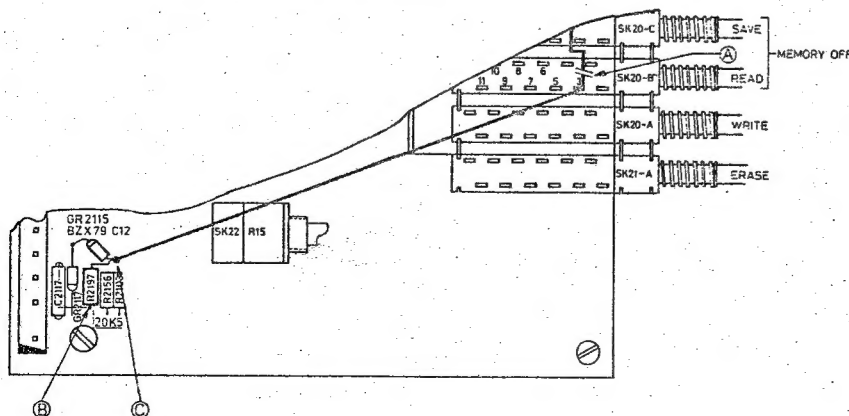

Fig. 1. Part of variable persistence and storage unit.
2. Interrupt the track (on the track-side of the p.w.b.) between point 3 of SK20B (READ) and the anode of GR2117 as indicated in fig. 1 (A).
4. Solder one side of a resistor of 20k Ω (5322 118 55255) on the point, which is connected with C2117 as indicated in fig. 1 (B) (on the component side of the p.w.b.).
5. Solder between the resistor of 20k Ω and the anode of the zenerdiode GR2117 a zenerdiode (GR2115) BZX 79 C12 (4822 130 34197). The cathode of GR2115 to the anode of GR2117 (see fig. 1).
6. Mount an interconnection wire between the anode of GR2115 (fig. 1 (C)) and point 3 of the switch SK20B (READ).